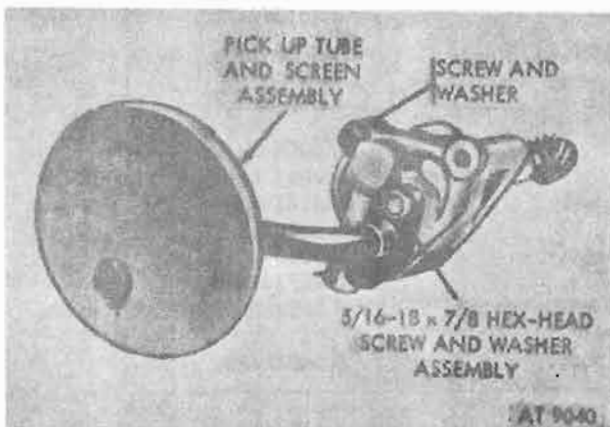

Figure 4-184. Oil pickup tube and screen assembly
a. Remove Pickup Tube and Screen Assembly. Remove hex-head capscrew and washer assembly holding pickup tube to oil pump cover, and remove pickup tube and gasket. Discard gasket (fig. 4-184).